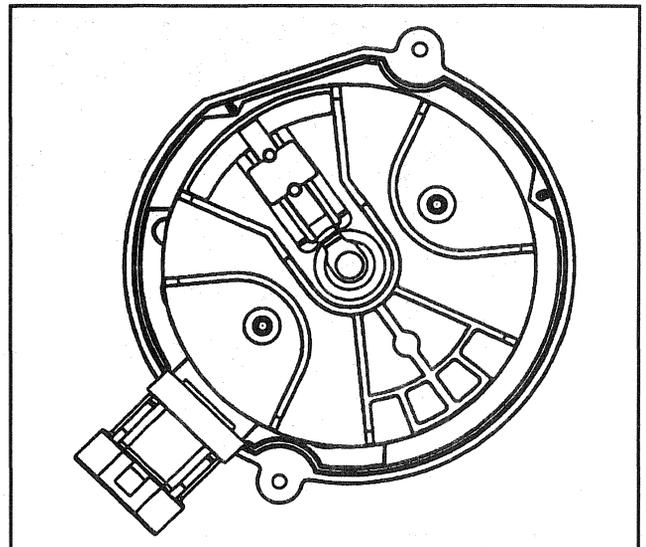

Figure 12—Installed Rotor Position (5.0L, 5.7L and 7.4L)
- E. ONCE THE DISTRIBUTOR IS FULLY SEATED, the rotor segment should be aligned with the pointer cast into the distributor base (Figures 12 and 14). This pointer will have a "6" or an "8" cast into it, indicating the distributor is to be used in a 6 cylinder or 8 cylinder engine. If the rotor segment does not come within a few degrees of the pointer, the gear mesh between the distributor and camshaft may be off a tooth or more. If this is the case, repeat the procedure again to achieve proper alignment.